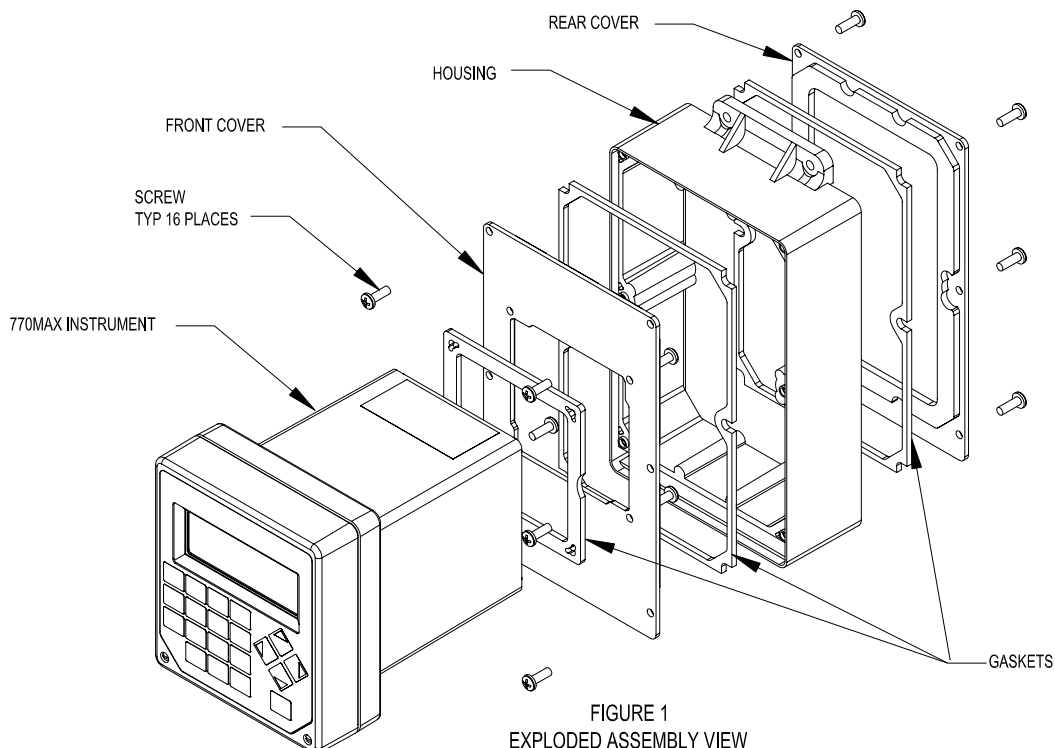

FIGURE 1
The 1000-69 kit comprises the housing, front cover, rear cover, gaskets, and 16 self-tapping screws (Figure 1). Accessory cable grip kit 1000-80, ordered separately, comprises two sets of cable grips, nuts and washers to seal two patch cords or other cables 0.23 - 0.55" (5.8 - 14mm) in diameter. They will accommodate the modular connector on the patch cords. The cable grips require drilling 0.828" (21.0mm) holes in the housing for mounting.
5. Install front cover to the front of the housing using four (4) screws. Tighten screws evenly.
6. Install front cover/housing to the rear of the instrument housing using four (4) screws as shown (Figure 1). Tighten screws evenly.
8. Install rear cover to rear of the housing with six (6) screws. Tighten screws evenly (Figure 1).